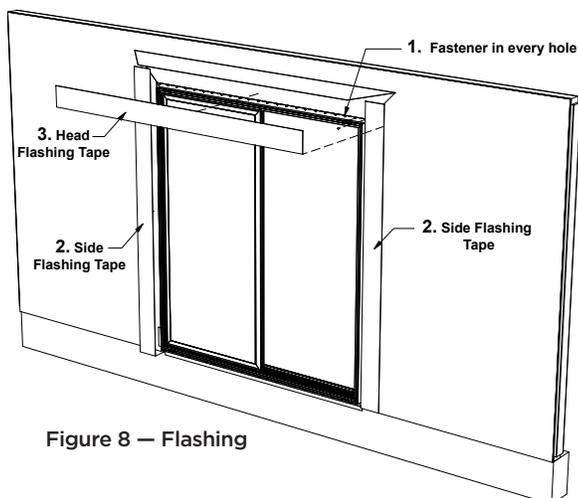

Figure 8 — Flashing
1. **(Recommended)** Install the side flashing, making sure to lap over the sill flashing and cover all of the fastener heads (**Figures 8 & 9**).
2. **(Recommended)** Install Head Flashing, making sure to lap over Side Flashing and cover all fastener heads (**Figures 8 & 9**).